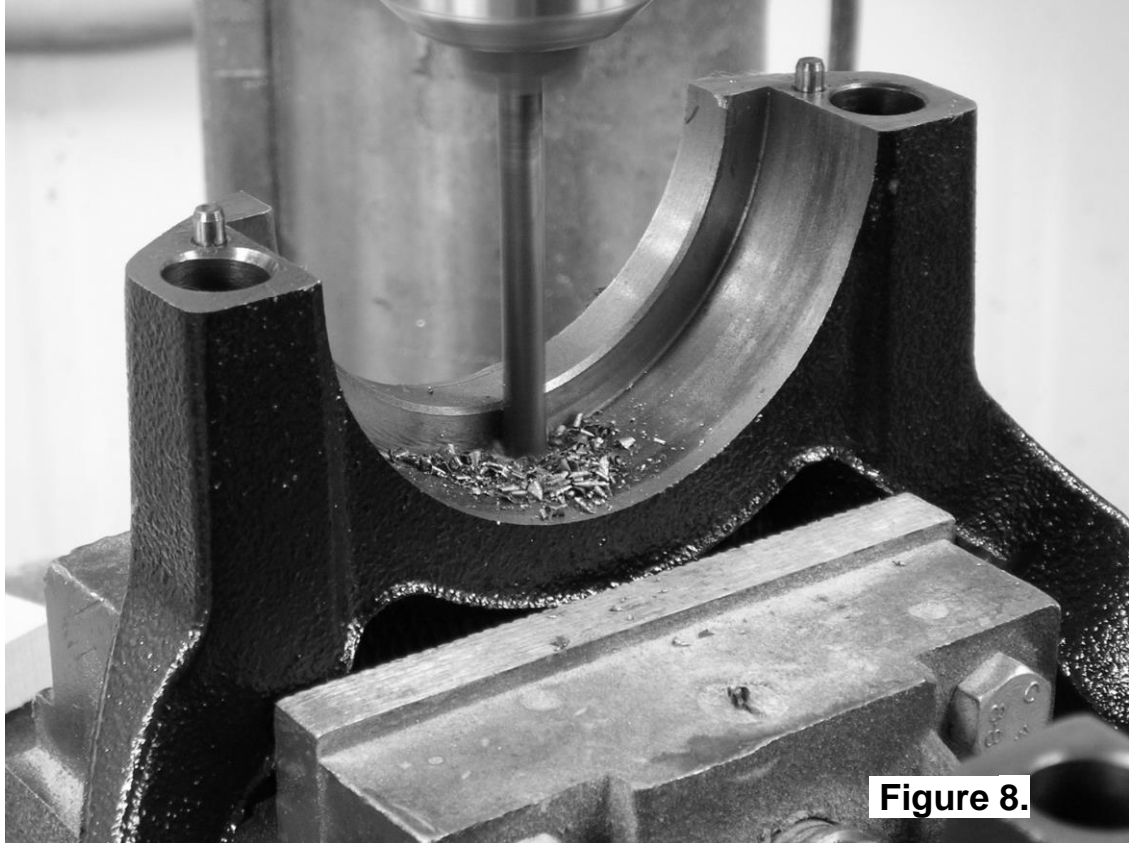

Figure 8.
- ☐ Using a pedestal drill, drill a 6mm [$\frac{1}{4}$ "] hole through the bearing cap, in the position shown, so that the drill is against the edge of the bearing stop. (Fig.8.)